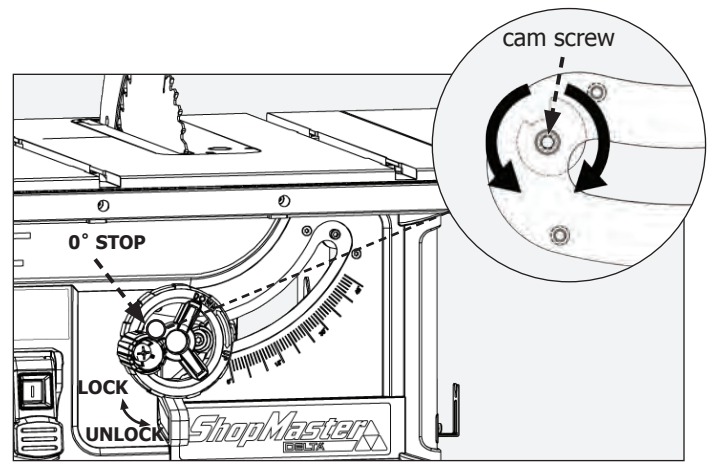

Figure 35
Adjustment to the bevel stops may be required if the blade is not vertically square to the table when bevel adjustment is set at 0° or does not go to 45° when bevel is tilted to 45°, maximum 45°. Corrective adjustments can be made by adjusting the bevel stop cams at each end of the bevel track as follows; If the blade is not vertically square to the table, you must adjust the 0° bevel stop cam (Fig. 35).
2. Loosen the cap screw that locks the 0° bevel stop cam in place (center of the cam). (As shown in Fig. 35)